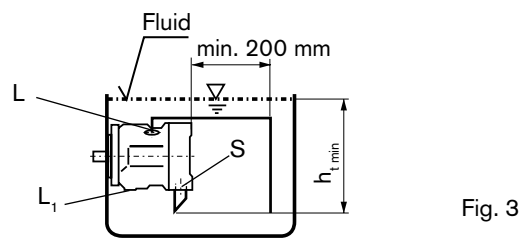

Fig. 3
- a) If the min. fluid level is above the top of the pump: plug port „L₁“, „L“ and „S“ open; it is recommended to pipe „L“ and connect a suction pipe to „S“ (see fig. 3)